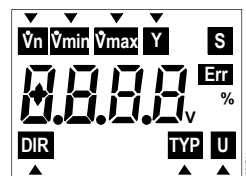

Figure 1
1) The selected parameter is indicated on the bottom line of the LCD by means of a cursor (▲) (Figure 1).
2) The selected parameter is indicated on the top line of the LCD by means of a cursor (▼) (Figure 1).